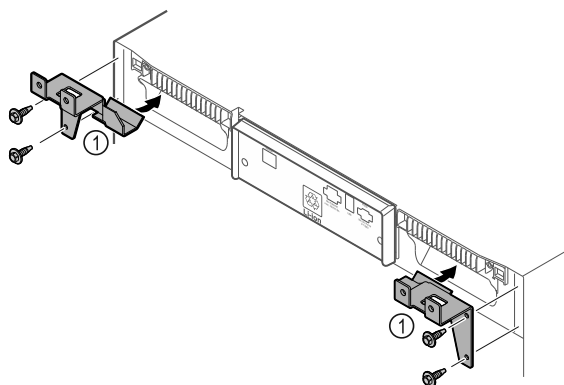

Fig. 51
- Fit the retaining parts Fig. 51 (1) to the device with self-tapping screws.